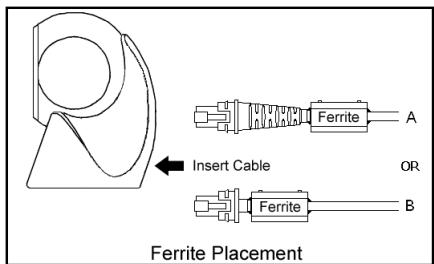

Figure 1
3. Place the cable into the slot of one of the choke's two halves. Position the ferrite choke near the end of the data/power cable (*refer figure 1*).